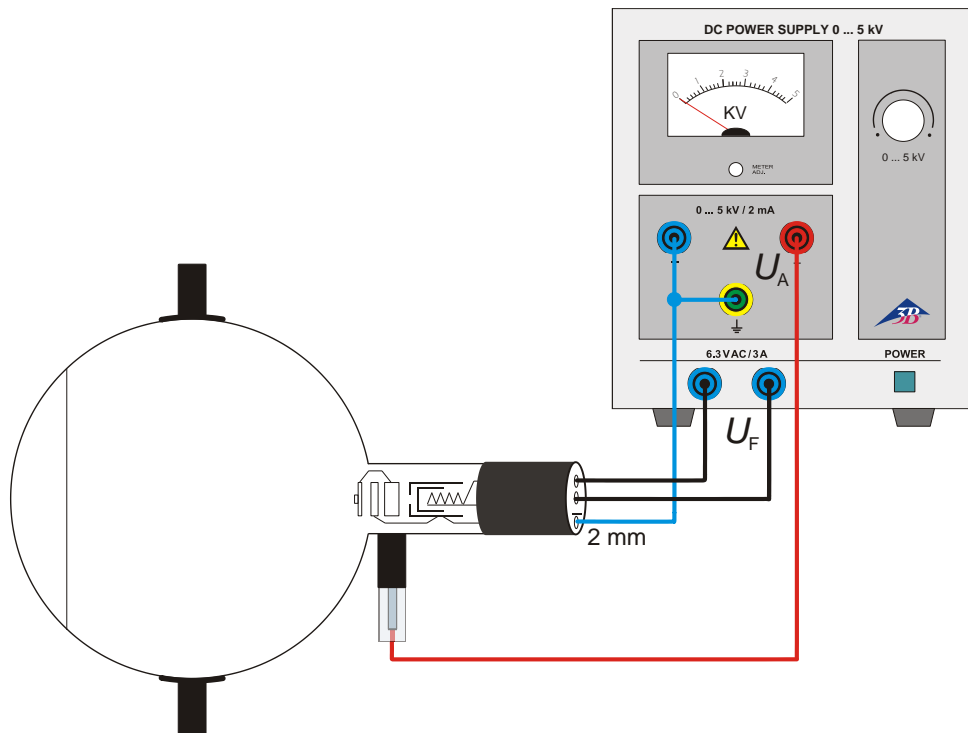

Fig. 2 Circuit of the diffraction tube D
- Set up the experiment as in Fig. 2. Connect the negative pole of the anode supply via the 2-mm socket.